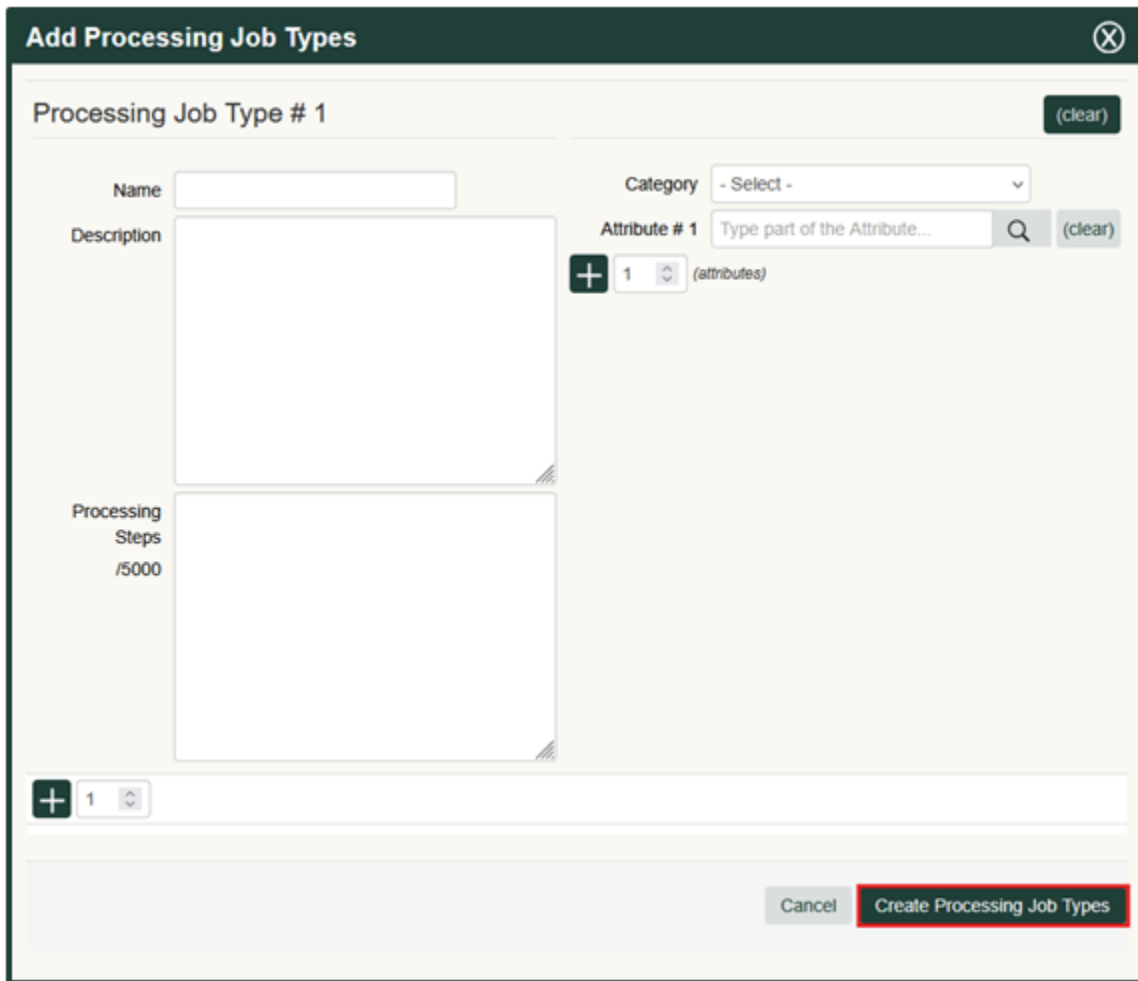

Figure 3: Add Processing Job Types action window
- Attributes can be added by typing in the attributes needed into the attribute field or by selecting the magnifying glass icon and choosing the appropriate option from the group of attributes. To add additional attributes, select the blue plus icon button – **see Figure 3.**